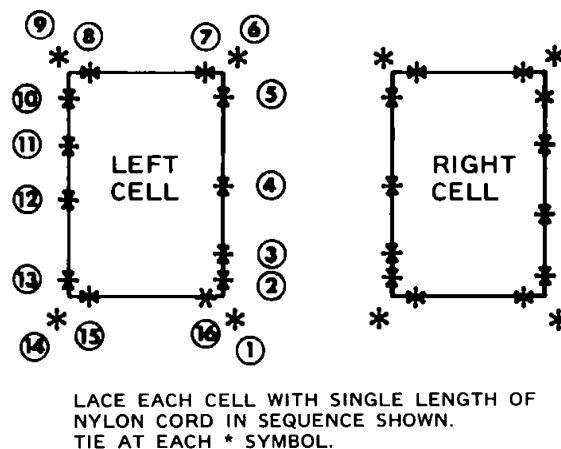

Figure 28-4. Forward fuel cell lacing
28.8.4.18 Lace and tie a single length of nylon cord (C-480) between hangers around top of cell and cavity (Figure 28-4).